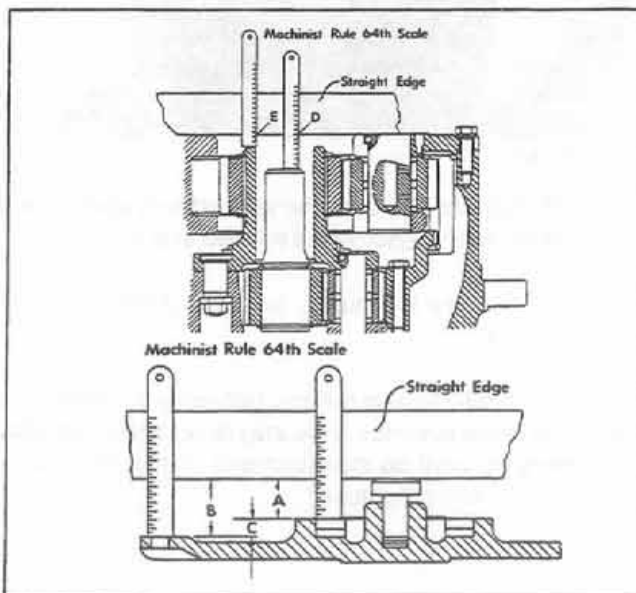

Figure 37:
Step 68. To check the clearance between the planetary carrier and the thrust washer in the cover, measure the distances in fig. 37 and use the following formula to determine the clearance. Measure the distances with a straight edge and machinists rule. Place the straight edge and rule as illustrated. Place the new gasket on the cover when taking cover measurements.
Step 69. To check the clearance between the axle shaft and the perch stud on the 598-00/10, measure the distances in Fig. 37 as illustrated. Be sure the axle shaft is pushed all the way into the differential against the spider thrust surface.